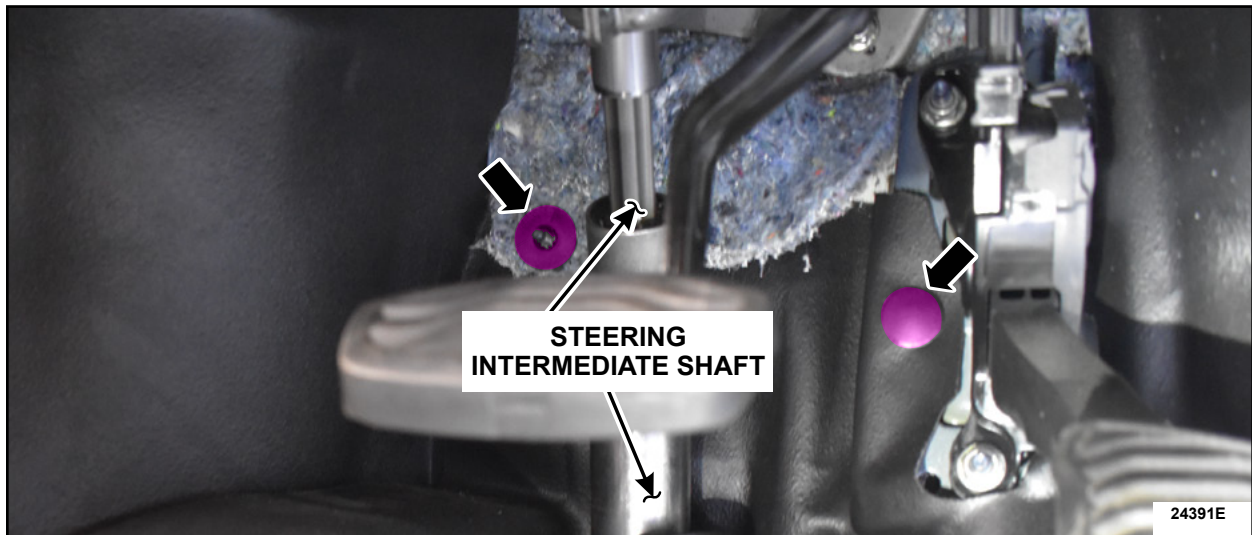

FIGURE 5
7. Remove the two (2) retainers, shown in Figure 5, that secure the flooring to the dash panel.